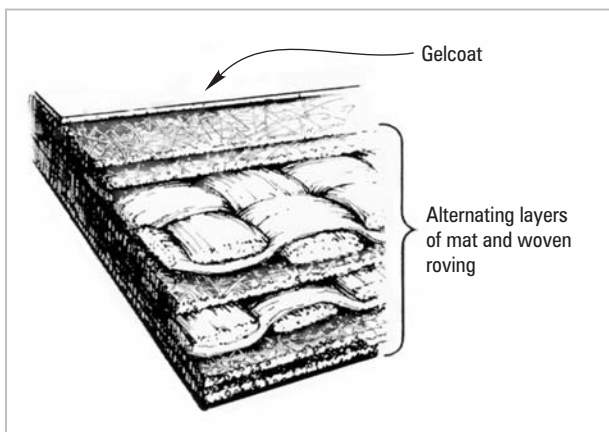

Figure 1-1 Typical solid (single skin) fiberglass laminate. Various reinforcing fabrics are bonded together with polyester resin.
Generally, production fiberglass boat hulls are built in a female mold. A release agent is first applied to the surface of the mold, over which the gelcoat material is applied. Gelcoat is usually a pigmented, unsaturated polyester resin and may be anywhere from 12 to 22 mils thick. It is designed to act as a moisture barrier for the underlying laminate, as well as to provide a smooth, glossy, cosmetic finish. Subsequent layers of fabric are saturated with resin and laid up over the gelcoat. There are as many lay-up schedules as there are boats. A typical hull section might consist of the layer of gelcoat, several alternating layers of mat and woven roving, and in many cases a core material such as end grain balsa or foam, followed by several more alternating layers of saturated mat and woven roving (*Figures 1-1 and 1-2*). Hull thickness may vary from boat to boat. Older boats were often laid up with a solid glass laminate thickness of 1½" (3.8 cm) to as much as 5" (12.7 cm) in the keel areas of the more heavily-built boats. Today, however, the trend is toward thinner, lighter laminates, making the structural integrity of each of the laminate components all the more critical.
- b. **Minor cracks** or scrapes that run through the gelcoat into the first chopped strand mat layers of the laminate (Figure 1-1) should be repaired with epoxy using the procedures described below (Section 2.1). Finish with the gelcoat repair technique described later in Section 2.2.1. If necessary, reinforce the laminate to reduce flexing as described in Section 3.